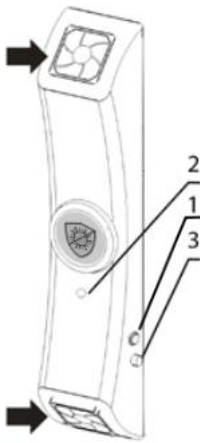

Figure 4. UVR-M overview
- 5.1.1 Plug the power cord into a grounded mains socket. Switch on the power switch (fig. 4/1).
- 5.1.2 Unit starts the recirculator automatically. Lit indicator (fig. 4/2) shows that the UV lamp is working.
- 5.1.4 **Lamp failure.** In case of UV lamp failure, unit terminates operation and does not resume until the lamp is replaced. Check the indicator (fig. 4/2) to see if the lamp is working. To replace the lamp, see **8.3**.
- 8.2.2 Dust filter control/replacement. The dust filters on either end of the UV-recirculator should be checked monthly and cleaned or replaced when they become clogged. To check, replace or clean the filters, simply unclip the covers (fig. 4/◆ and 5/◆), if necessary, fit a new one; otherwise rinse in water, dry, and set up existing filters. Clip covers back in place.
- 8.3 **UV-lamp replacement.** Replacement must be performed only by qualified and specially trained personnel. UV lamp replacement is necessary after lamp stops functioning or at the end of manufacturer specified lifetime. Use the indicator in the centre of recirculator (fig. 4/2 or 5/8) to check UV lamps inside the recirculator. If the indicator is alight while the switch is ON, then the UV lamps are functioning. If it is not, replace the lamp, single lamp in case of **UVR-M**, both - in case of **UVR-Mi**.
- 8.4 **Fuse replacement.** Disconnect the unit from the mains and unscrew the fuse holder cap (fig. 4/3 or 5/10). Check the fuse and replace, if necessary, with a correct one: